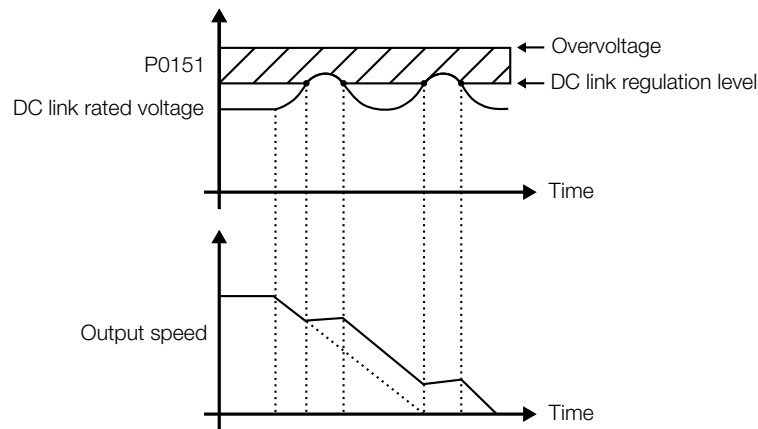
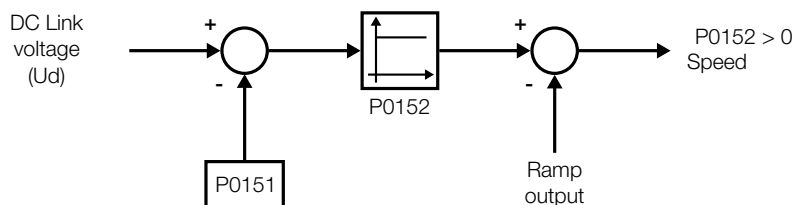

Figure 5.16: Deceleration with ramp holding
Figure 5.17: Block diagram of the DC link voltage regulation
Ramp holding - When the voltage of the DC link reaches the regulation level during deceleration, the deceleration ramp time is extended and the speed is maintained at a constant value until the DC link voltage leaves the actuation level. See Figure 5.16 on page 5-23. This voltage regulation of the DC link (ramp holding) tries to avoid the locking of the inverter due to errors related to overvoltage on the DC link when the deceleration occurs with high inertia loads or with short deceleration times.
When the DC link voltage reaches the regulation level during deceleration, the deceleration time is extended and the motor is accelerated until the DC link leaves the actuation level. See Figure 5.16 on page 5-23 and Figure 5.17 on page 5-24.
- Refer to P0151 (with V/F control) and Figure 5.17 on page 5-24.